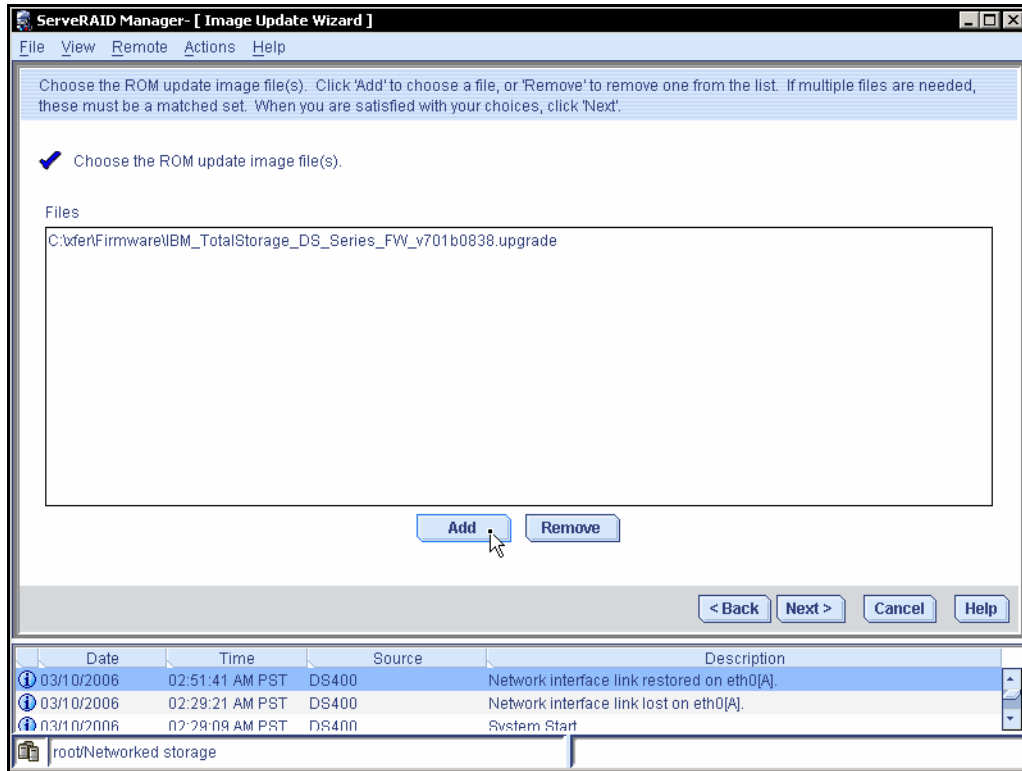

Figure 32 Add firmware file
4. Choose the file to add, as shown in Figure 32 on page 29.